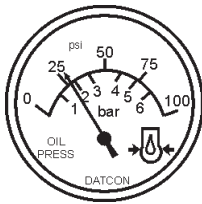

Figure 50. Oil Pressure Gauge
15. The engine oil pressure gauge (Figure 50) will indicate the oil pressure of the engine. Under normal operating conditions the oil pressure is approximately 35 to 65 psi. (241~448 kPa). When starting the generator